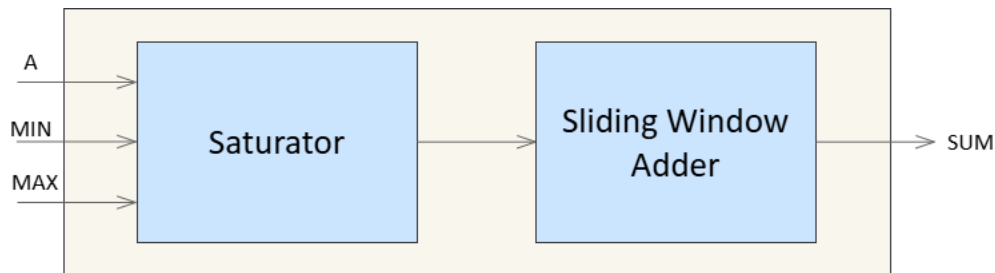

Figure 3: The block design of the module to be implemented
3. Connect the previously implemented modules to get a module which computes the sum of a window of values which are pre-adjusted to fit in a given range. Create a testbench to simulate your design. The block design of the module is shown in Figure 3.